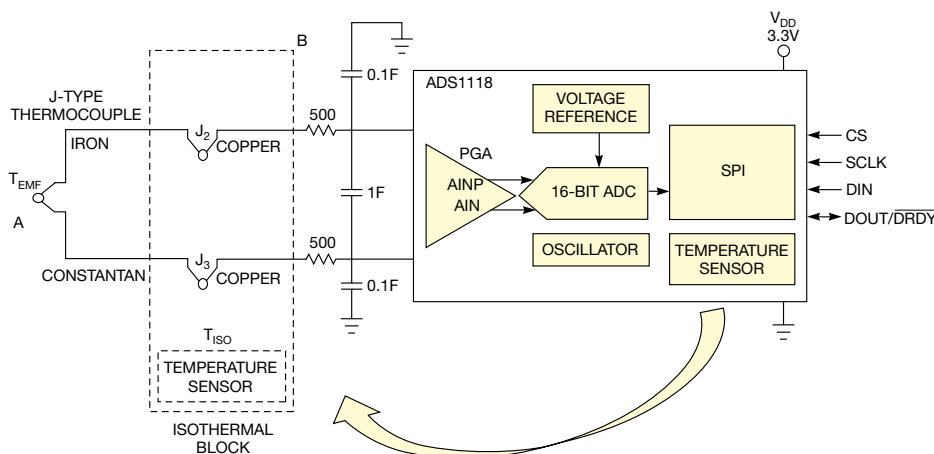

Figure 1 This single-supply thermocouple application uses a J-type thermocouple.
Figure 1 shows an example of a single-supply thermocouple application
In any thermocouple application, the variables at work are the EMF voltage change versus the temperature of the thermocouple's bead versus the open-ended wires, the absolute temperature at the near site (B), and the absolute temperature at the far site (A). The thermocouple manufacturer provides a table of the EMF voltage versus temperature for the thermocouple bead. This information leaves two unknowns: the temperature at A and the temperature at B. In finding the temperature at site B, the isothermal block in Figure 1 is a plane that contains J_2 , J_3 , and the temperature sensor, which is inside the ADS1118 chip. The accuracy of the ADS1118's temperature sensor typically is 0.2°C , with a minimum and maximum of $\pm 0.5^\circ\text{C}$. Careful layout techniques allow you to keep the entire ADS1118, J_2 , and J_3 at the same temperature on the isothermal block.